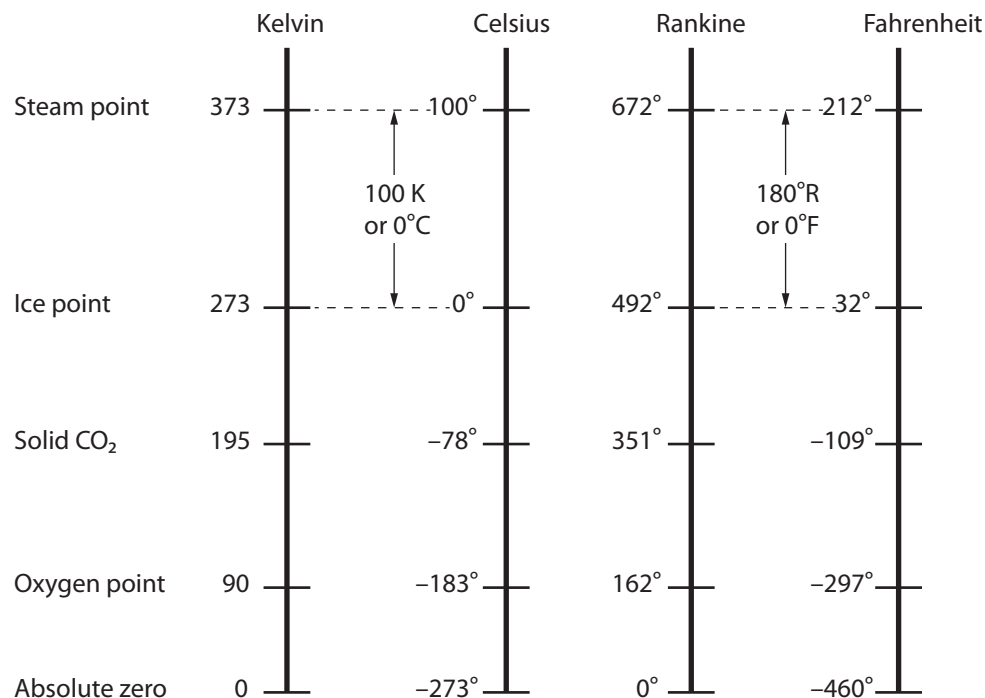

Figure 44 — Temperature scales
Adding 273 to the centigrade reading gives you the absolute temperature of a Celsius temperature. Absolute temperatures are measured in kelvins (K). For example,  $20^{\circ}\text{C} = 20 + 273 = 293\text{ K}$ . Adding 460 to the Fahrenheit reading gives you the absolute temperature of a Fahrenheit temperature. Absolute temperatures are measured in Rankine (R). For example,  $20^{\circ}\text{F} = 20 + 460 = 480^{\circ}\text{R}$ . Figure 44 shows various temperature scales.